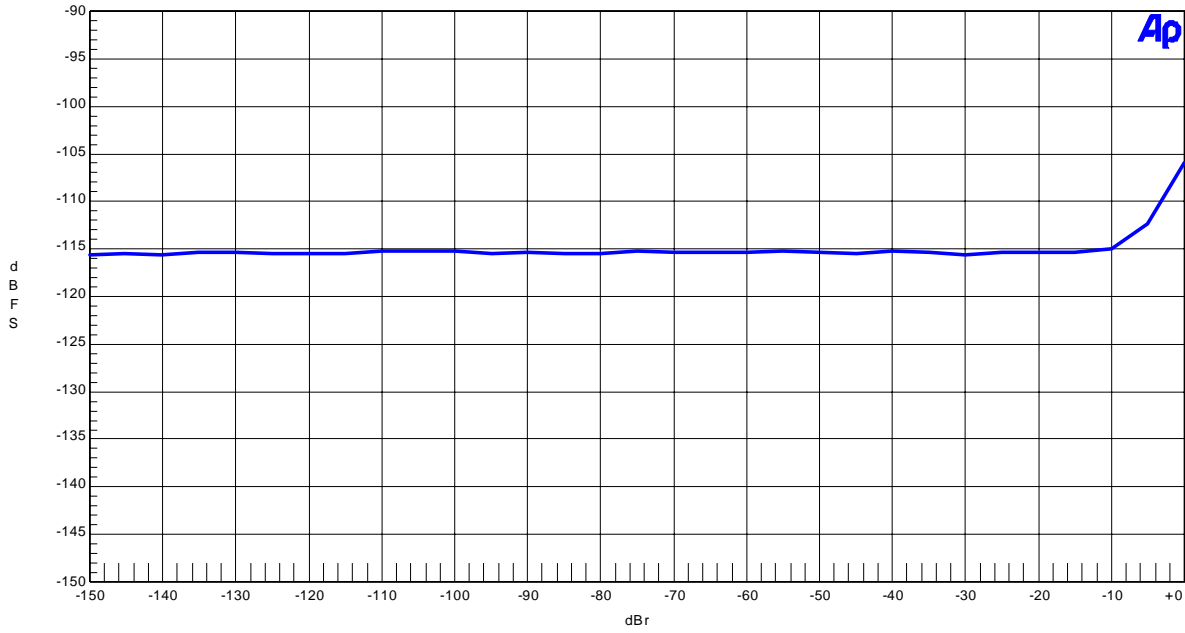

Figure 1-2-5. THD+N vs Input Level (1kHz input)
- Figure 1-2-5. THD+N vs Input Level (1kHz input)